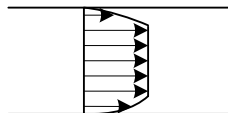

Figure 2-2: Plug flow of a Binghamian fluid.
2. Plug flow will occur since shear stress is low in the middle of the pipe. The Bingham model predicts an  $YP = 9.1 \text{ Pa}$ . This is a theoretical value, but given time at laminar flow gel strength will develop, in fact approaching the level of the YP. Shear stresses below this level will lead to gel (flocculation) as shown in Figure 2-2